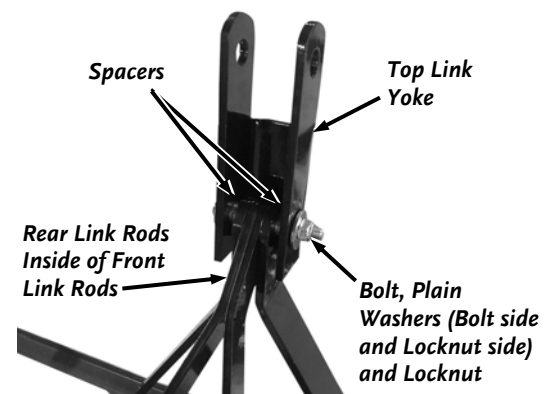

Figure 9
4. Position the Top Link Yoke over the ends of the link arms with Spacers (#40834) between the Suspension Linkage and Rear Link Rods (**Figure 9**).